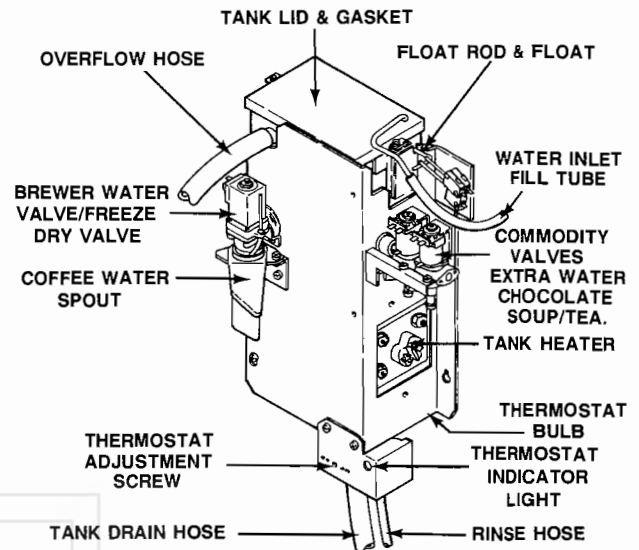

Figure 3. WATER TANK
21. THE WATER TANK - See Figure 3
When coffee has been selected and button is pressed and cup has dropped, the coffee grounds will dump immediately into grounds chamber. Approximately 2 seconds later the grounds chamber carriage will go back under brew cylinder and brew cylinder will seat itself on the grounds chamber (Figure 2). The cylinder is held against the brew chamber seal by the springs on the cylinder support rods. Water should start about 1 second later into the cylinder (figure 3). [Note: Water amount is adjusted by 1.) Timing of brewer and water channel in program setting on control board on door or 2.) opening of front cam switch located at top of brewer.]
(Fig. 3)